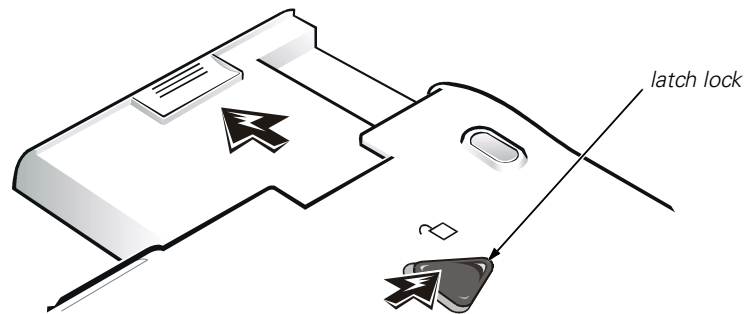

Figure 7. Modular Bay Device Removal
2. Push the module latch toward the unlock icon. Keep holding the latch open while pulling the device out of the modular bay with the other hand (see Figure 7).